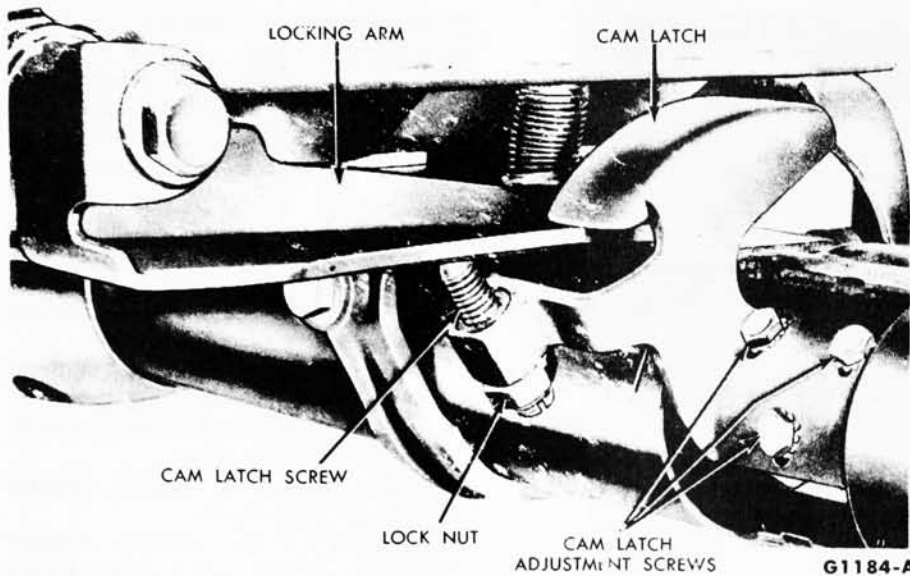

FIG. 13—Steering Column Locking Mechanism
2. If interference is noted, loosen the cam latch screw lock nut (Fig. 13).
3. Turn the screw (Fig. 13) in or out as required to provide clearance between the locking arm and bracket and also at the cam latch.